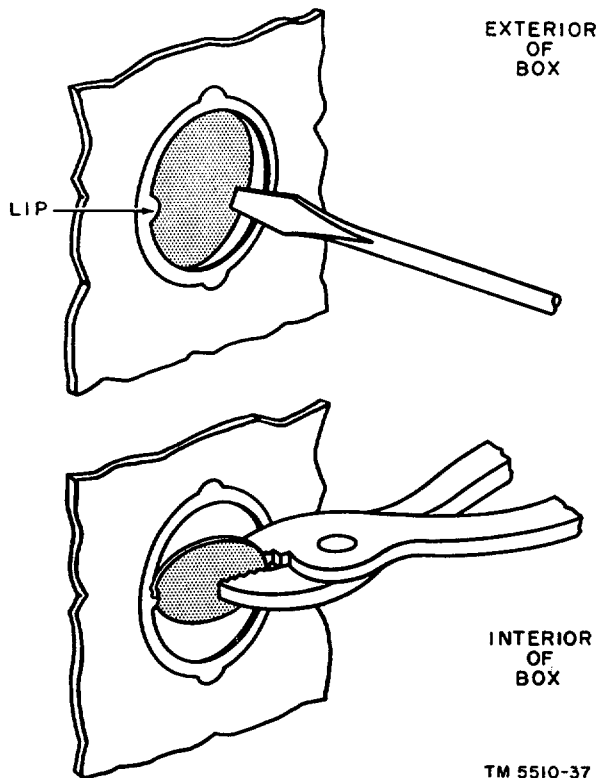

Figure 38. Removal of knockout plugs.
d. Remove the two knockout plugs which are most convenient for the installation and cable connections. The formation of the knock-out rings in the surface of the case is alternately in and out. Rings with surfaces above the outer surface of the box must be bent outward and then twisted free; rings with surfaces lower than the outer surface of the box must be driven inward and then twisted free. Remove the small center knockout plug by striking it sharply with a screwdriver at a point on the side opposite the lip (fig. 38) and then twisting it free.